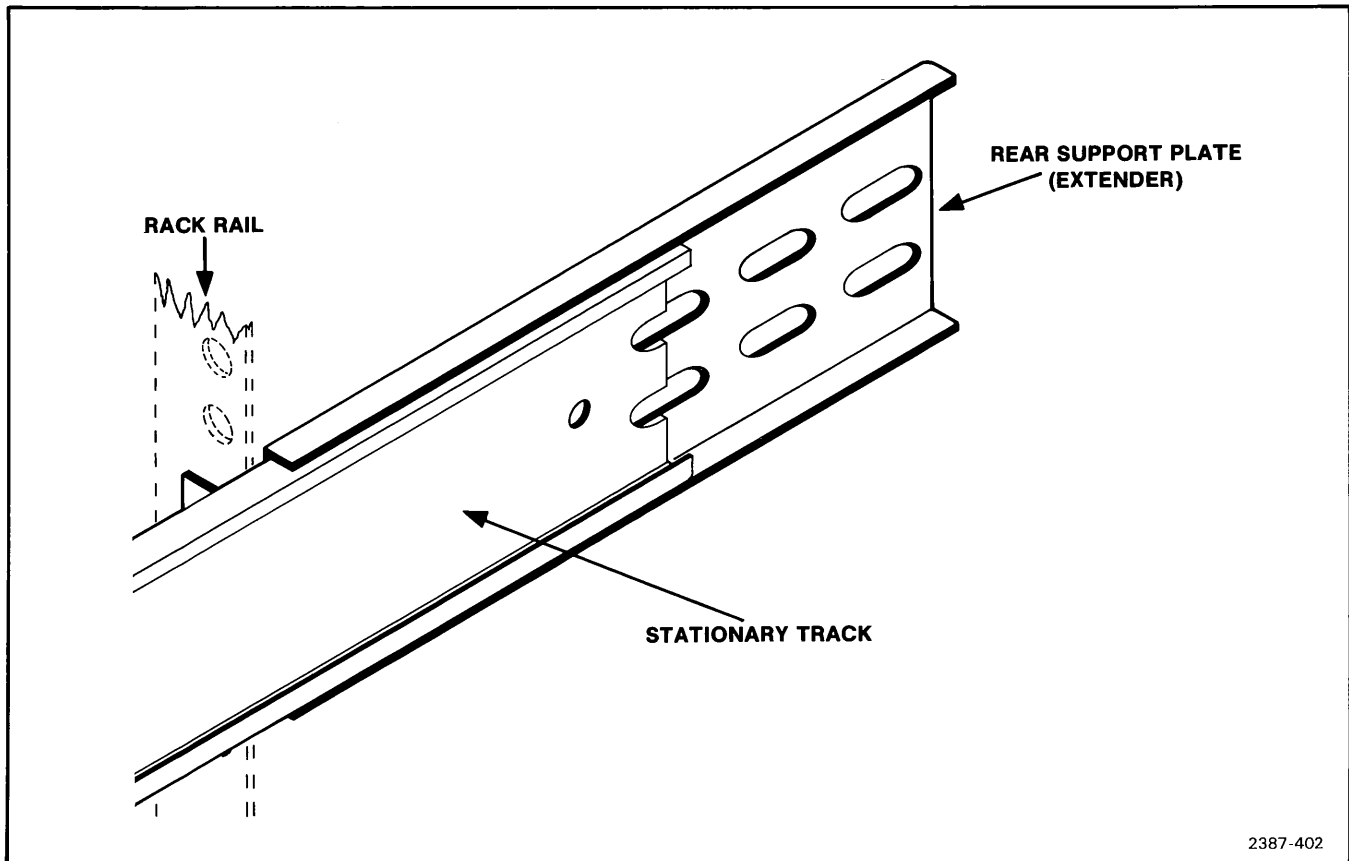

Figure 4-2. Reversing the rear support plates for a shallow rack.
1. Measure the distance between the front and rear rails. Attach the rear support plates to the stationary slide tracks with bolts and bar nuts to match the rail spacing. Do not fully tighten the bolts. For shallow racks, the rear support plates can be reversed as shown in Figure 4-2. However, the rack cabinet must allow the 7612D to extend out the rear of the rack.